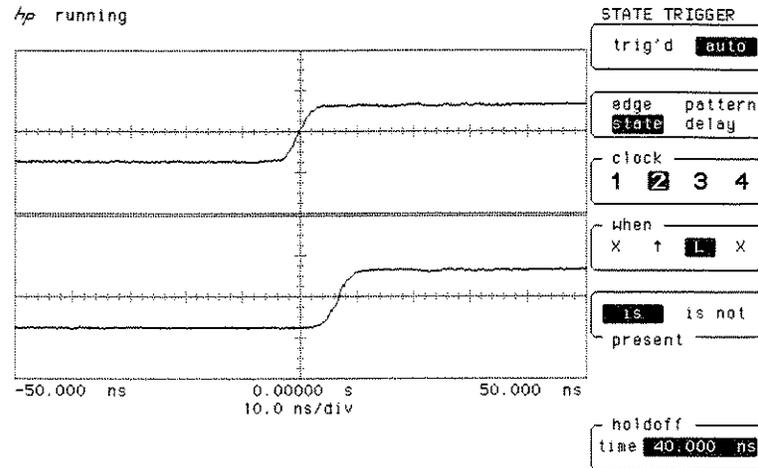

Figure 3-23. X|LX State
- Press the **when** key until **is present** is selected (see figure 3-23).